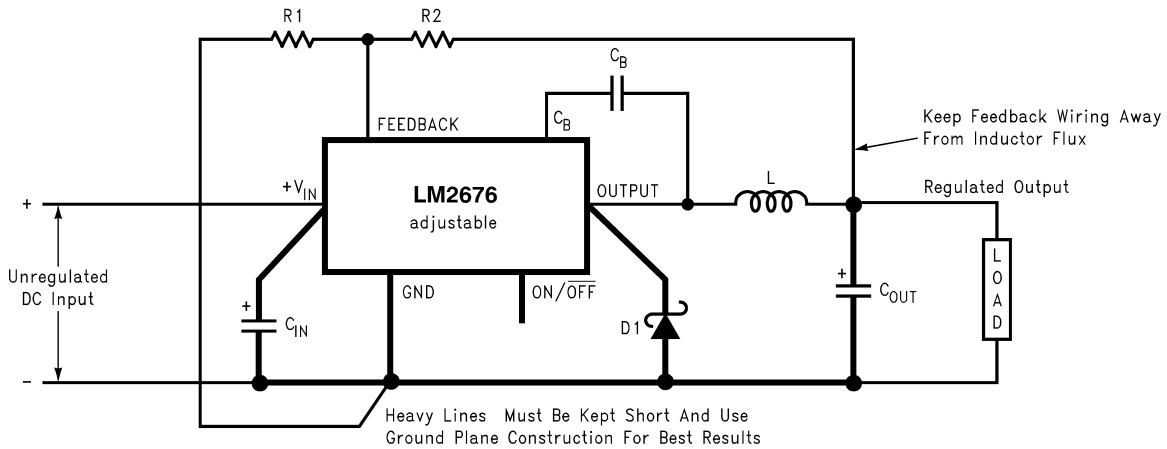

图 8-7. Basic Circuit for Adjustable Output Voltage Applications
Step 2: Select an LM2676S-ADJ. To set the output voltage to 14.9 V, two resistors must be chosen (R_1 and R_2 in 图 8-7). For the adjustable device, the output voltage is set by the following relationship: